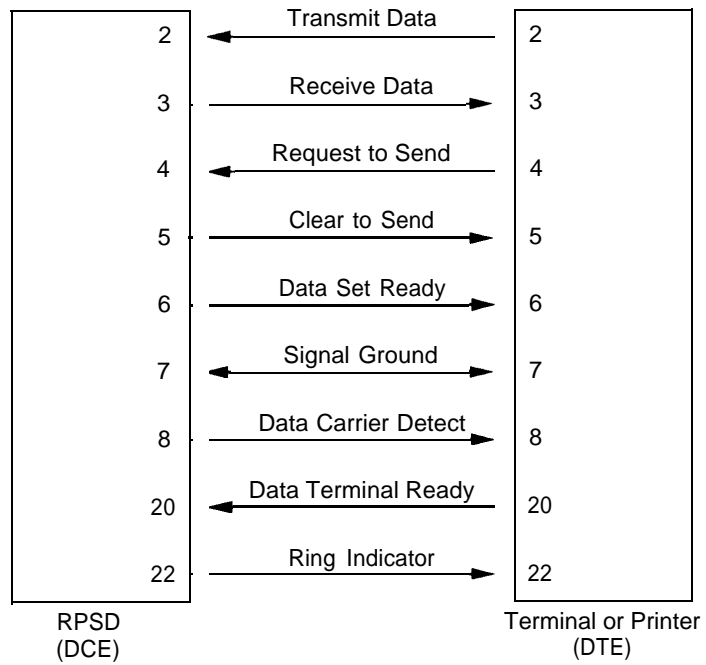

FIGURE 2-8
- 1 The 212A modem uses a DB25 connection. See Figures 2-8 and 2-9 for the details on making up the appropriate connector.